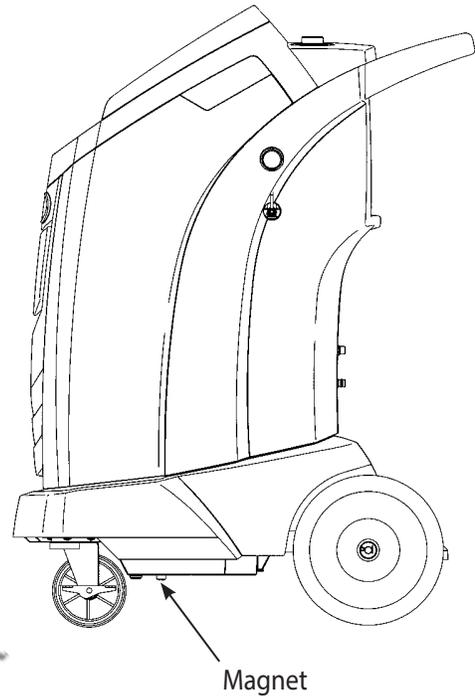

Figure 13
1. Refer to Figure 13, and verify the magnet on the bottom of the machine is clean.